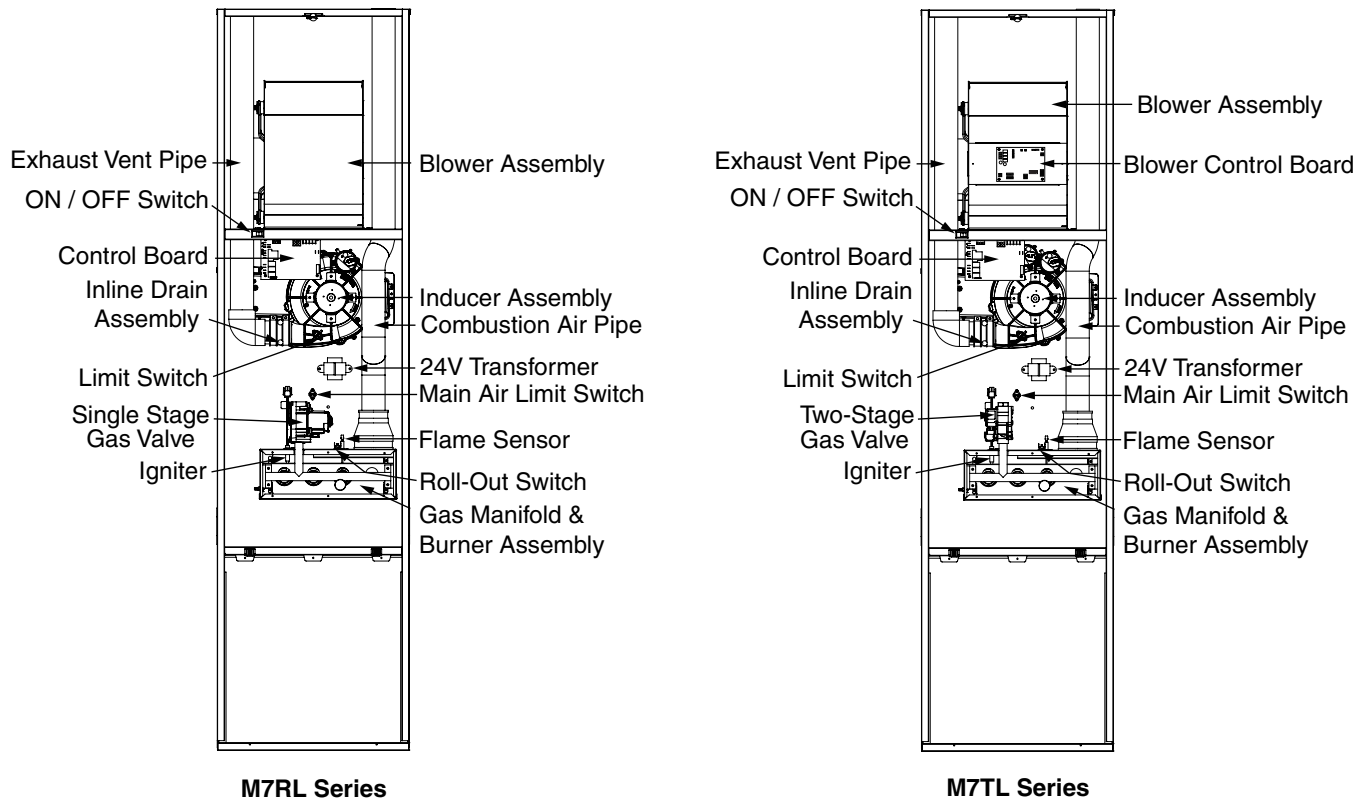

Figure 3. M7RL & M7TL Furnace Components
2. Is the On / OFF switch (inside the blower compartment) turned on? See Figure 3, \(page 8\).
The furnace components shown in Figure 3 will help identify and locate various parts of the furnace. The component you need to familiarize yourself with is the gas valve. You will use this to turn the furnace on and off. There are no user serviceable parts. All repairs must be done by a licensed HVAC technician.